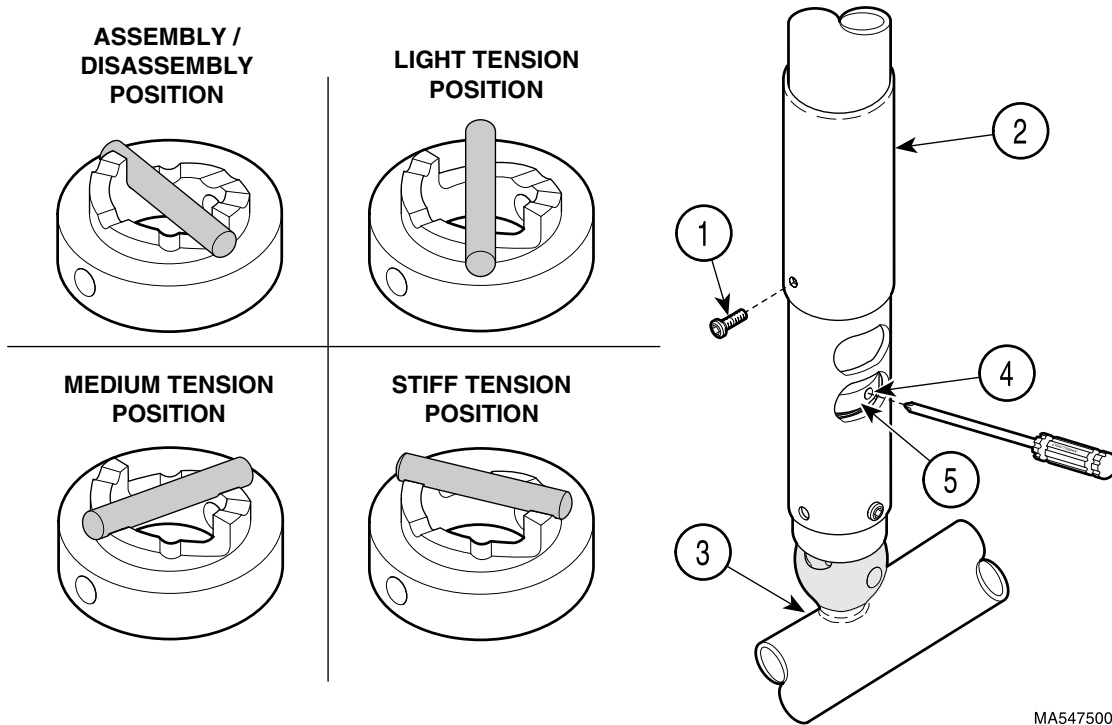

Figure 10. Ball Pivot Joint Tension Adjustment
- (1) Remove screw (1, Figure 10) and slide ball pivot sleeve (2) up out of way.
There are three settings which the ball pivot cam (5) can be set for: light tension, medium tension, or stiff tension (see Figure 10). These settings may be changed according to the operator's preference.
- (3) Insert screwdriver into adjustment hole (4). Then, using the screwdriver, rotate ball pivot cam (5) to the desired tension setting.
- (4) Remove the screwdriver and move the cross tube (3) about the ball pivot joint in a circular motion and up and down motion to ensure the setting is the one desired. Move the cross tube (3) to a horizontal position and release it. The cross tube should not drift in any direction. If it does, a higher
- (2) Rotate cross tube (3) until adjustment hole (4) appears in the adjustment window opening.
- (7) Insert screwdriver into adjustment hole (4, Figure 10). Then, using the screwdriver, rotate ball pivot cam (5) to the light, medium, or stiff setting as desired by the operator(s). Remove screwdriver.
- (8) Slide ball pivot sleeve (2) down into position and secure with screw (1).